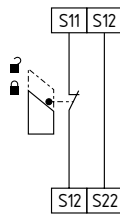

Fig. 8
**Single-channel guard door monitoring circuit with interlocking devices to ISO 14119 (Fig. 8)**